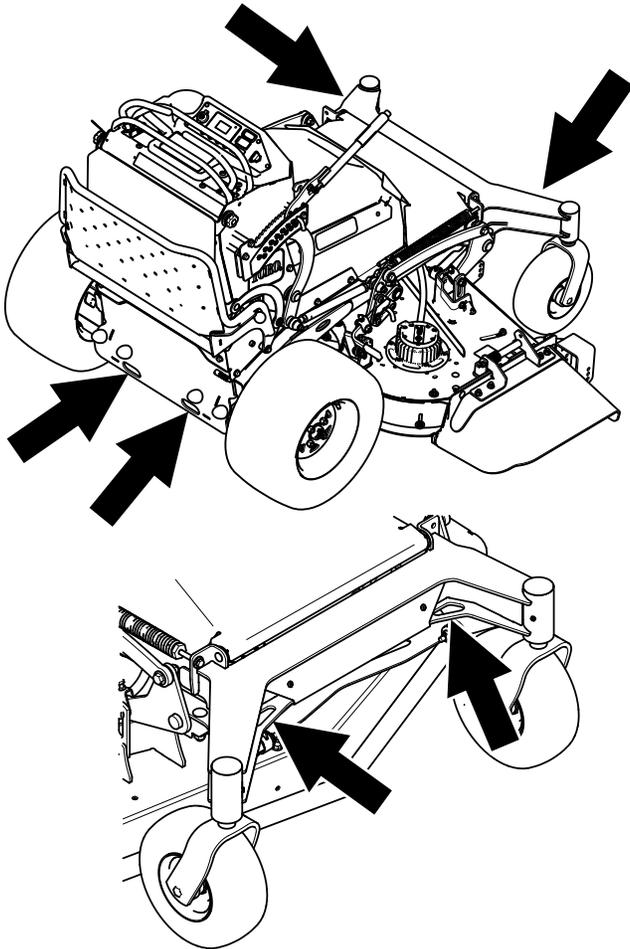

Figure 39
- Tie down the machine near the front caster wheels, or front frame holes, and the rear bumper holes with straps, chains, cable, or ropes (Figure 39). Refer to local regulations for tie-down requirements.